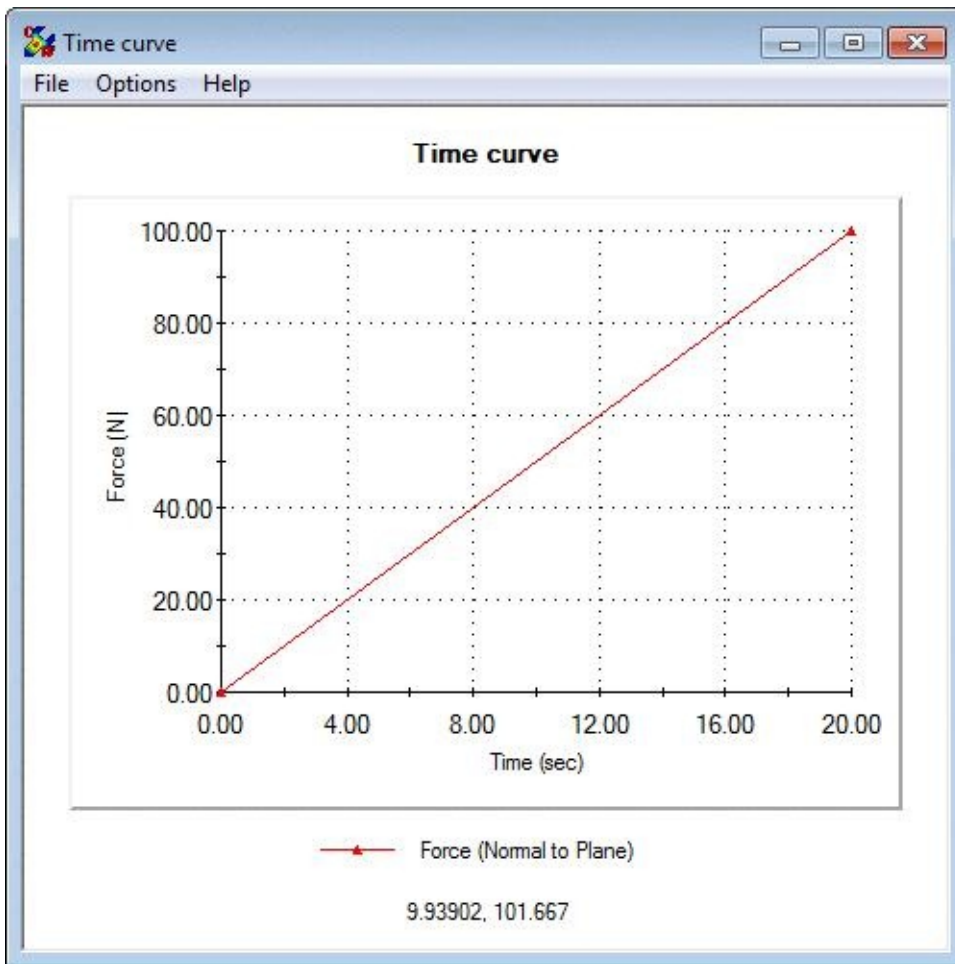

Figure-12. Time curve dialog box after entering 10 in force edit box
- Note that if you click on the **View** button from the **Variation with Time** rollout; the graph will be displayed with the total force of $10 \times 10 = 100$ N; refer to Figure-12.